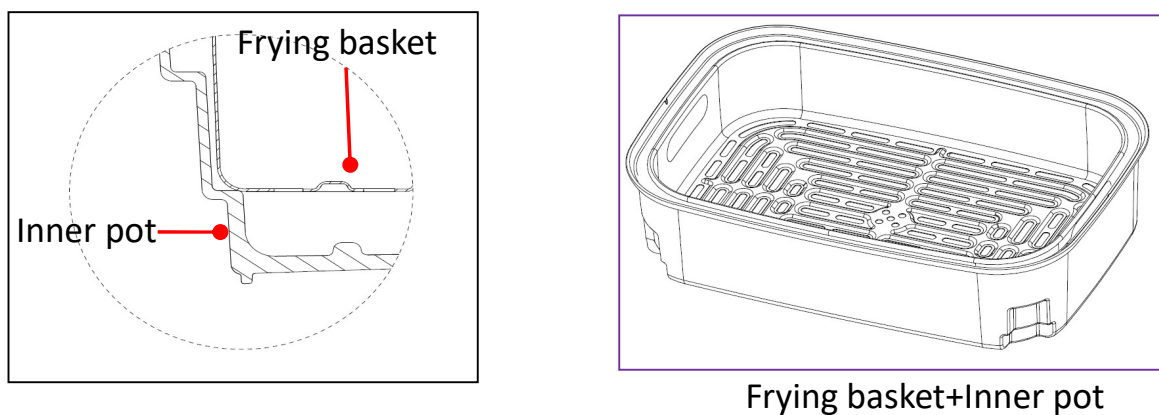

Fig.1
4. When need to use the frying basket, the frying basket must be operated with the inner pot together. There are four support feet at the bottom of the inner pot for supporting the frying basket installed in the inner pot (see Fig.1).